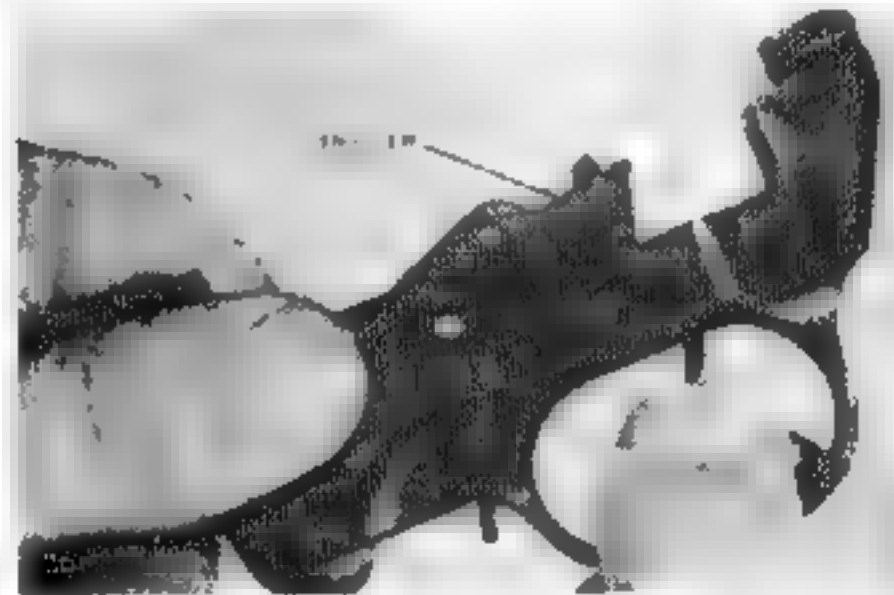

Figure 22. Removing the trigger
d. Hold the trigger housing group as shown in Figure 22. Move the trigger forward and then rotate the rear of the trigger upward and forward out of the top of the trigger housing group. Remove the trigger spring from the trigger housing group during this step.